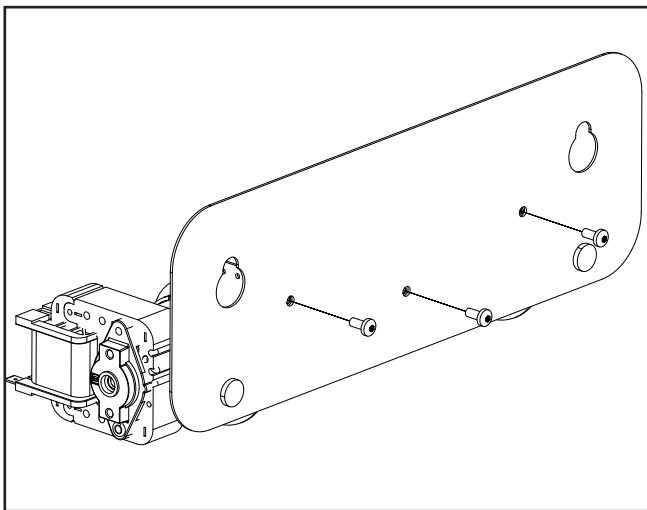

Figure 32: Fan Removal
3. Detach the fan from the rubber mounts and remove the fan mount from the back of the fan by loosening the three (3) T20 screws holding it in place (Figure 32).